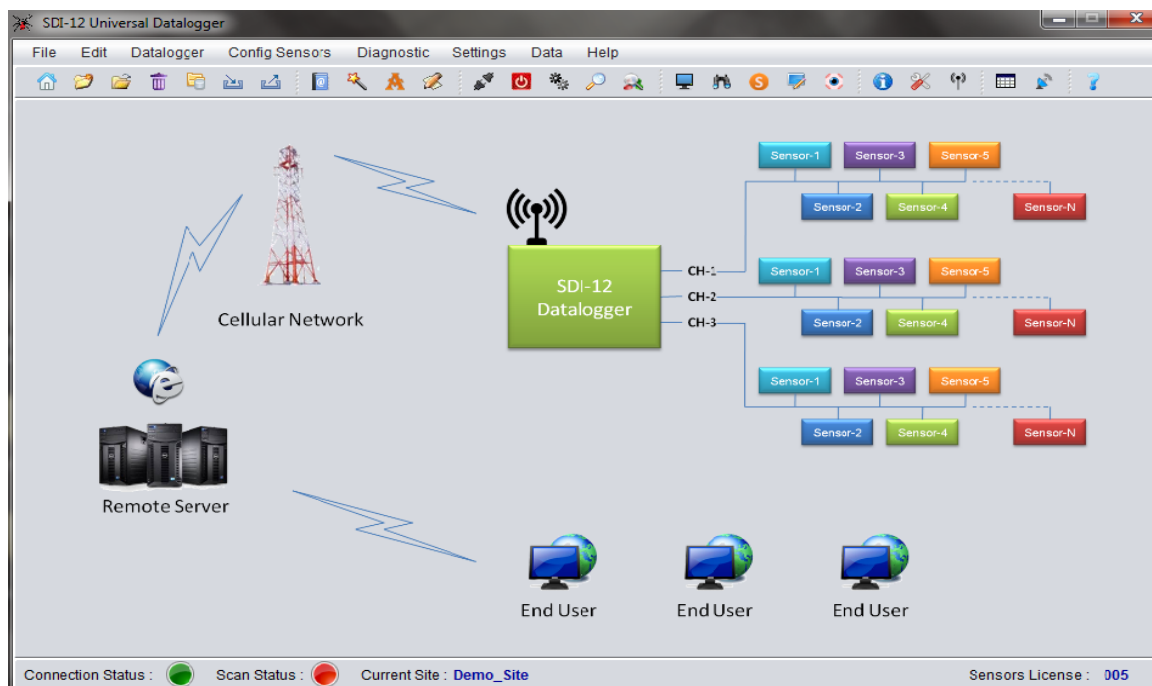

Figure 12: Configuration Software Home Screen after successful connection to data logger
- Once the datalogger is connected to laptop, home screen will appear as shown in figure 12.